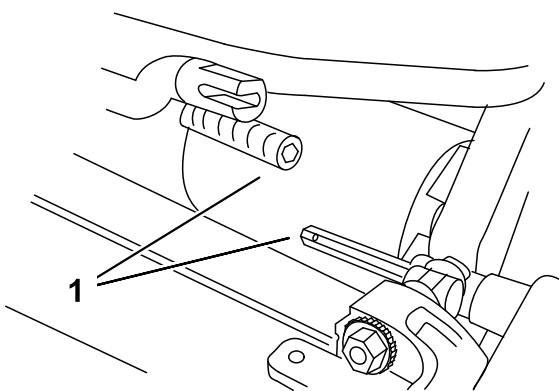

Figure 49
6. Pull cutting unit forward about 2 inch (51 mm) and then to the right to disengage the transmission coupling (Figure 49).